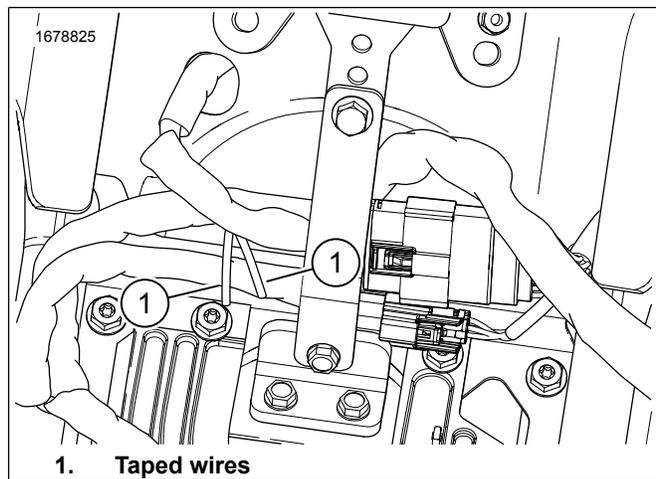

Figure 4. Battery Box Wires
1. Figure 4 Locate taped white/pink and white/brown wires in battery box area. Remove tape from wires.